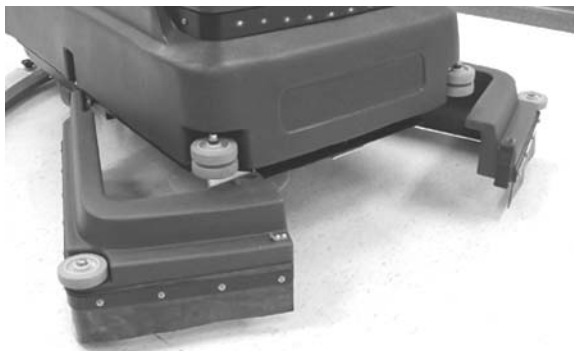

FIG. 8
- Unfasten black latch at front of machine and hinge open skirt housing to access motor hub (Figure 8).